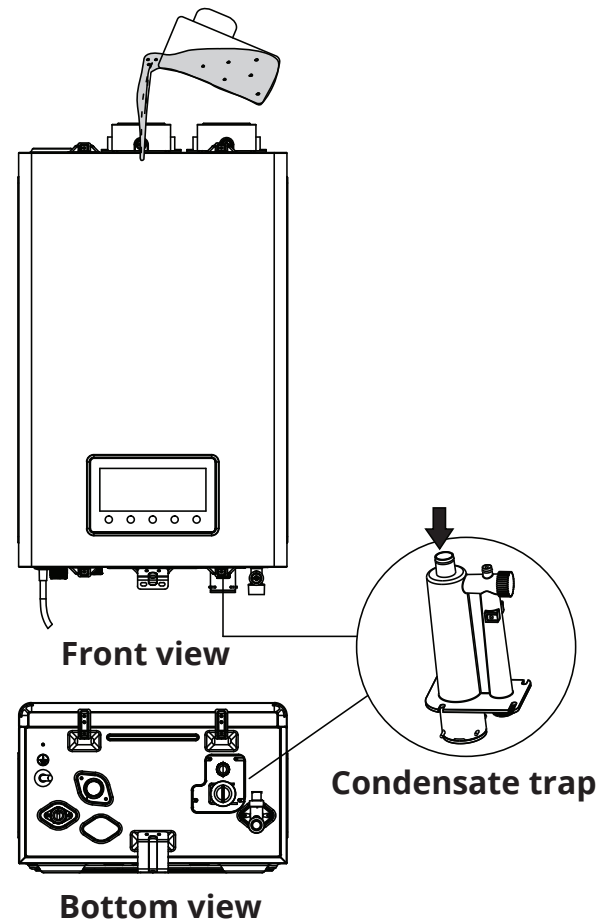

Fig 12.3
4. Fill the condensate trap inside the water heater by pouring water through the exhaust vent on top of the unit until water flows through the condensate drain. Ensure the water flows through the condensate drain line smoothly. (See Fig. 12.3)